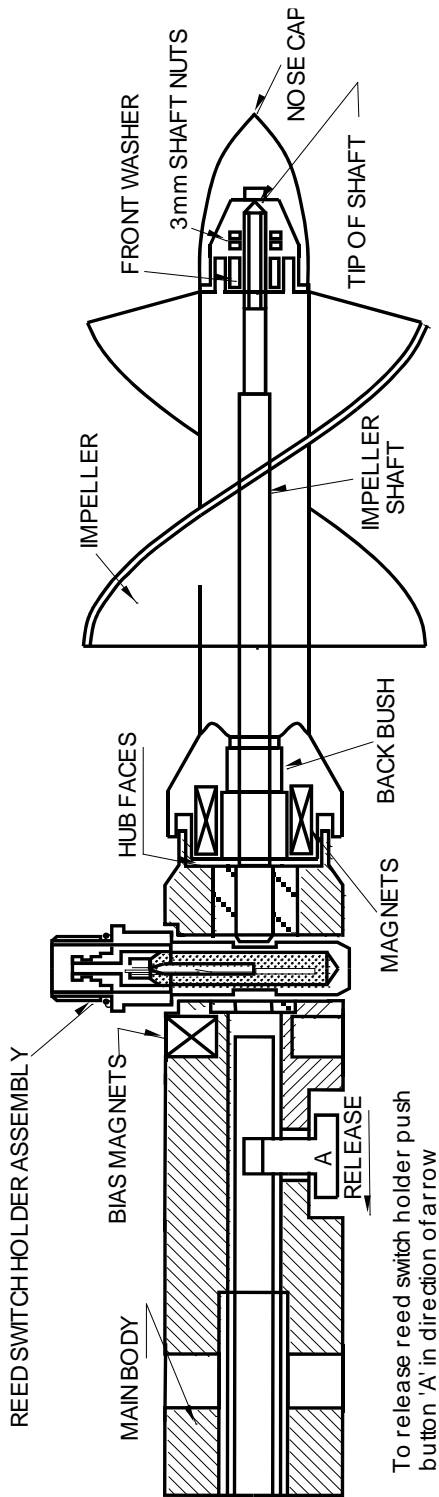

Figure 3 – sectional diagram of BFM002
7.3 FIGURE 3 - SECTIONAL DIAGRAM OF BFM002